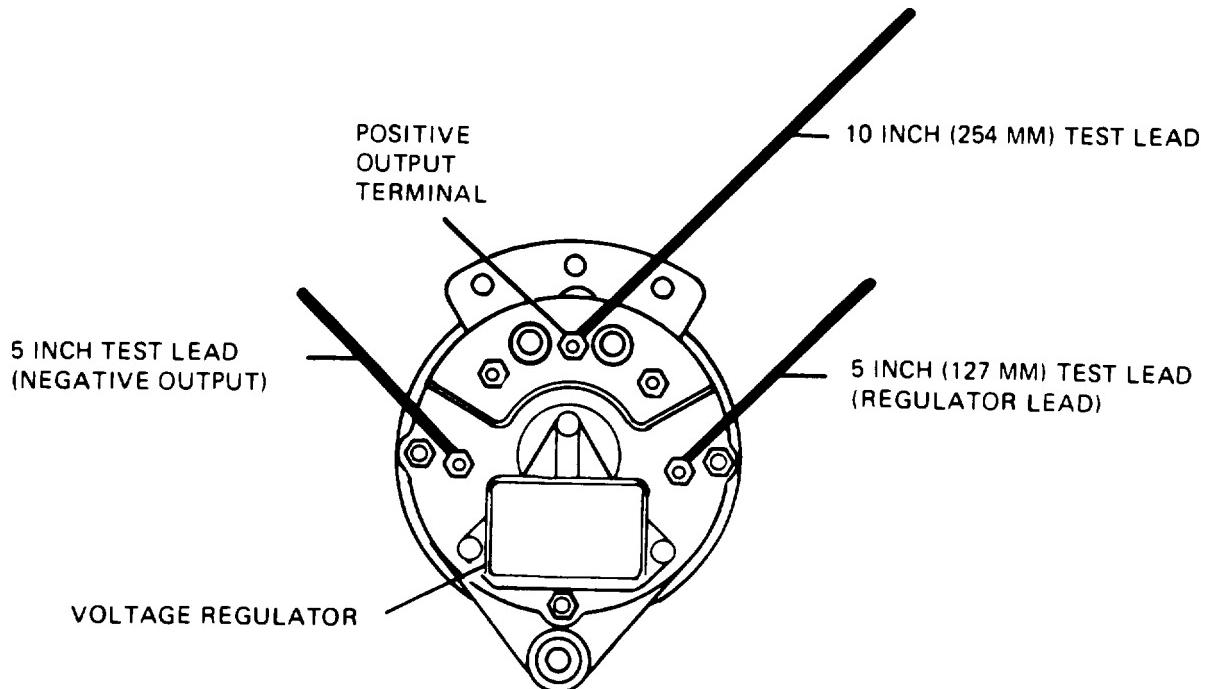

Figure 3-7. Alternator Test Leads Installation
- (1) Manufacture test leads as follows:
- (2) Install test leads as follows:
- (a) Attach test leads as shown in figure 3-7. Pass the free end of each lead through the ventilated band cover (9, figure 3-5).
- (b) Install regulator and cover assembly (2) and secure with screws (1).